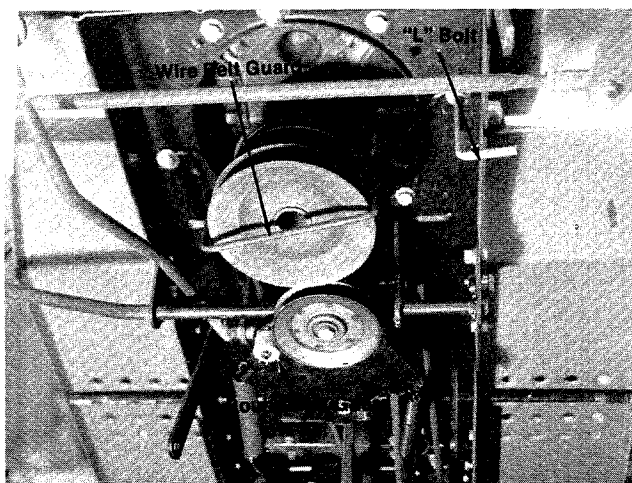

FIGURE 5.
- Remove the round belt keeper from the idler by removing the cotter hairpin. (See figure 5.)